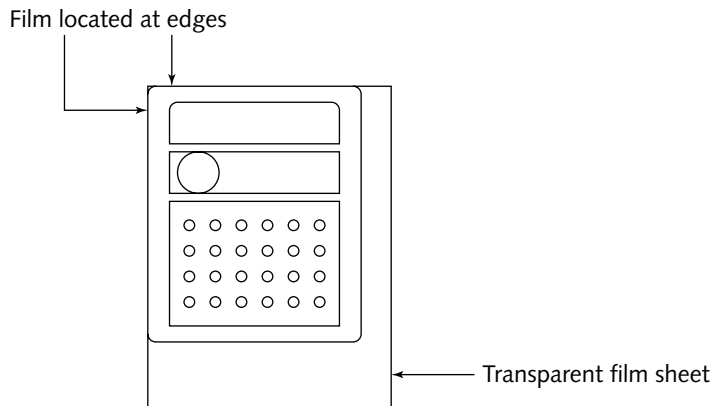
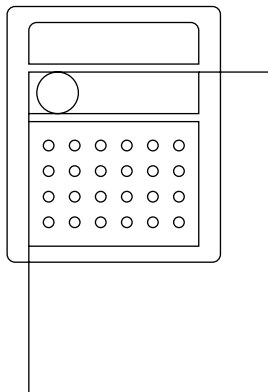

FIGURE 11-24: Locating film at edge of instrument for reference
FIGURE 11-25: Locating film at detail of instrument for reference
2. Either position the film so that its edges line up with edges on the instrument (see Figure 11-24) or position the film at key detail points of the instrument's design (see Figure 11-25).